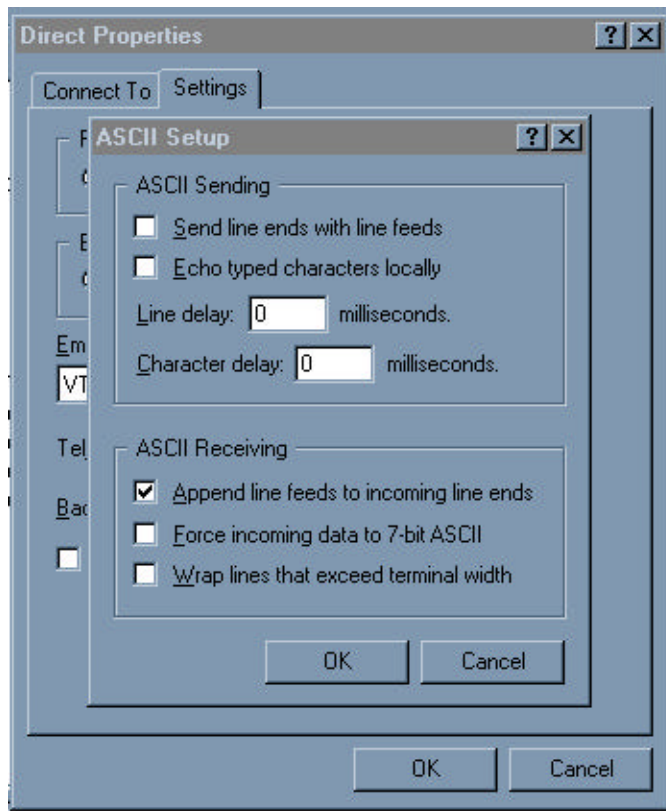

Figure 4-8. ASCII Setup Box
7. Click on “ASCII Setup...”. Match the settings with those in Figure 4-8. Click OK.